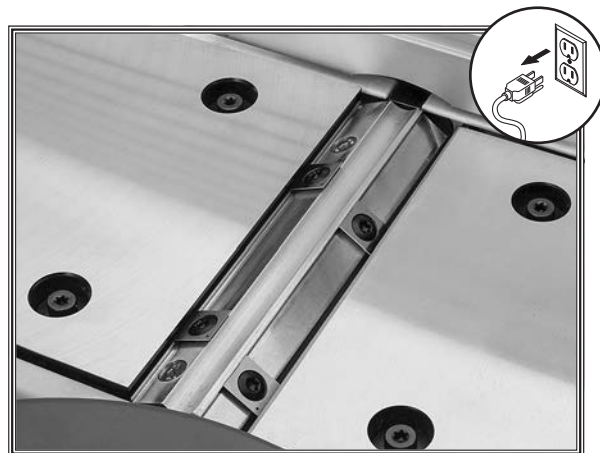

Figure 27. Cutterhead area cleaned.
4. Carefully clean away all sawdust or debris from top of insert, Torx screw, and surrounding area (see **Figure 27**).